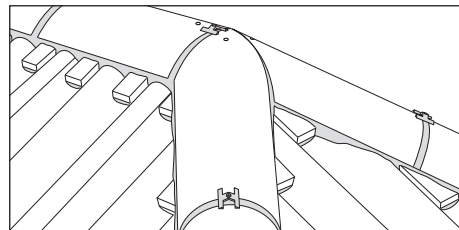

Fig. 17 – At ridge hip junction, cut tiles with three-way mitre to ensure continuous line
- 1 Mitre junction of hip and roof apex using a standard three-way mitre and solid bed (Fig. 17).